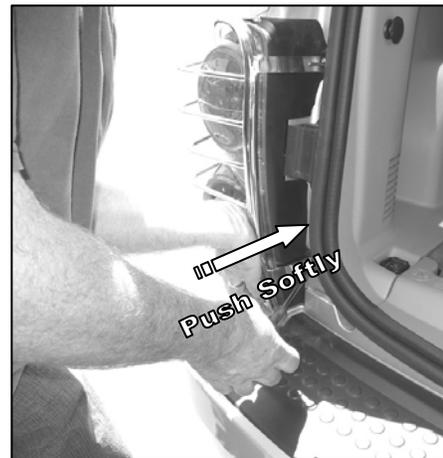

Figure 5
- NOTE:** In order to fully tighten the Phillips Screws, you will need to push softly on the Taillight Guard as you tighten the screws (**Figure 5**).